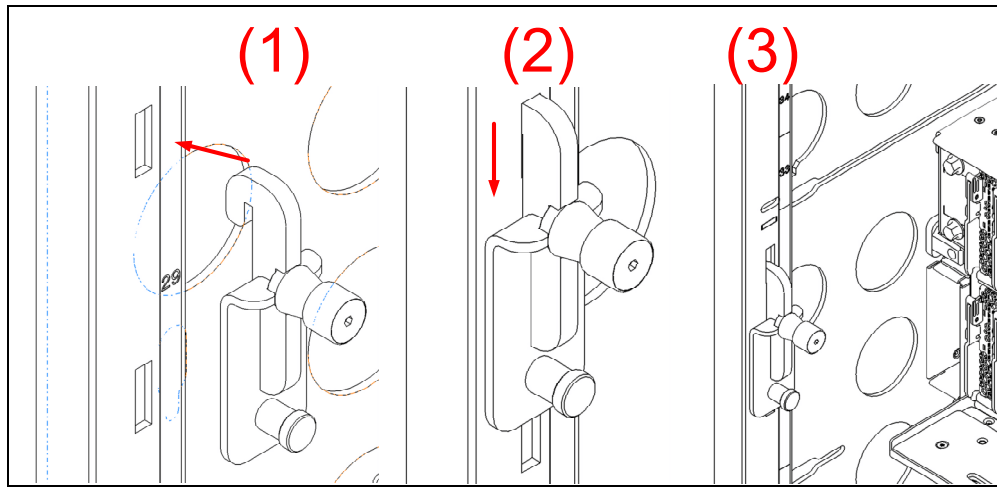

Figure 11 CAM Follower Installation
STEP 17 Locate and remove the CAM Followers from their storage location, they are shipped in the lowest slot in the frame. Remove the CAM Followers by removing the shipping/retention screw, PN 77G0599 using either a 7mm or 8mm socket (depending on which screw was used in Manufacturing) and store the screw for later use. Complete removal by pulling out the plunger locating pin and sliding the CAM Follower up to remove it from its storage location. Install the CAM Follower(see Figure 11) in the rack slot number of the CEC Drawer being serviced; slide CAM Follower hook into the appropriate frame slot so the roller aligns with CEC Drawer channels, then insert pin into frame rail.